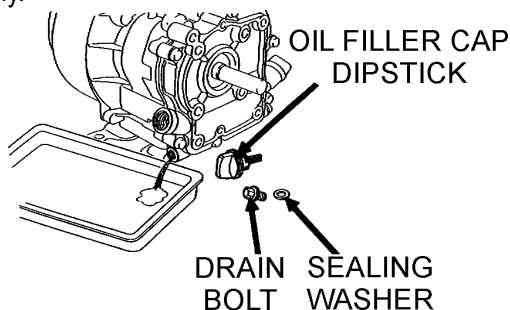

Figure 30. Engine Oil (Draining)
- Drain the engine oil when the oil is **warm** as shown in Figure 30.